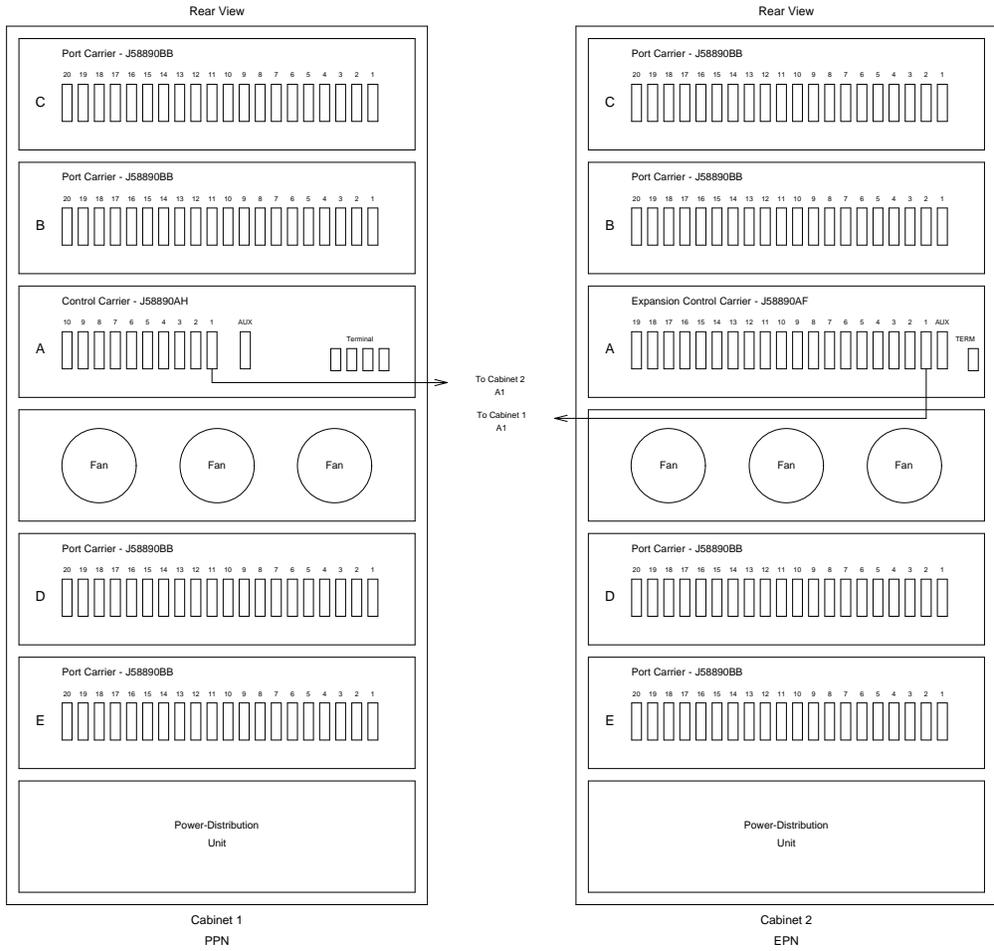
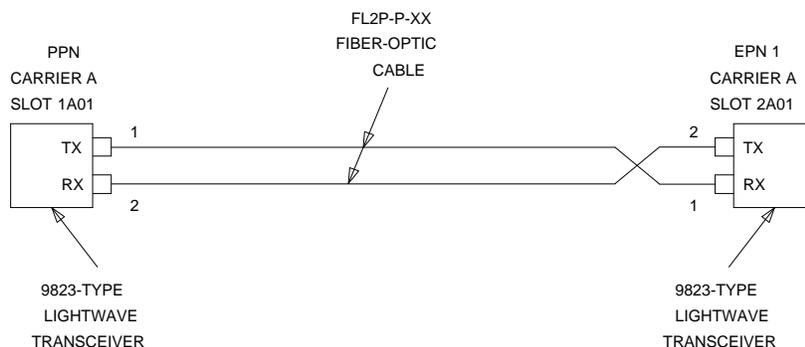

Figure 3-31. Standard-Reliability G3i V4 with Two Port Networks
Figure 3-33. Fiber-Optic Connections PPN to EPN
1. Behind control carrier A of the PPN cabinet (see Figure 3-31 and Figure 3-33):
1. Behind control carrier A of the PPN cabinet (see Figure 3-31 and Figure 3-34):